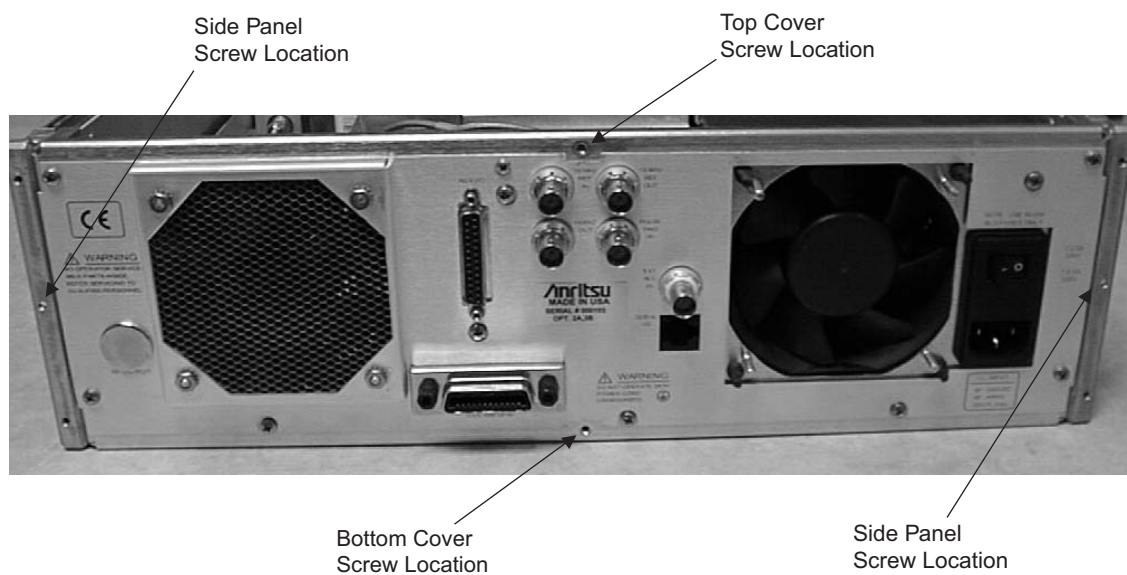

Figure 6-2. Rear Panel Retaining Screw Locations
3. Remove the screw that fastens the top cover to the chassis (see Figure 6-2 on page 6-8).
6. Remove the screw that fastens the bottom cover to the chassis. See Figure 6-2. At the rear of the instrument pull the cover upwards about 1.5 inches then pull the cover towards the rear of the instrument while sliding the cover out along the grooves in the chassis.
9. Remove the screw that fastens the left side cover to the chassis. See Figure 6-2.
11. Remove the screw that fastens the right side cover to the chassis. See Figure 6-2.